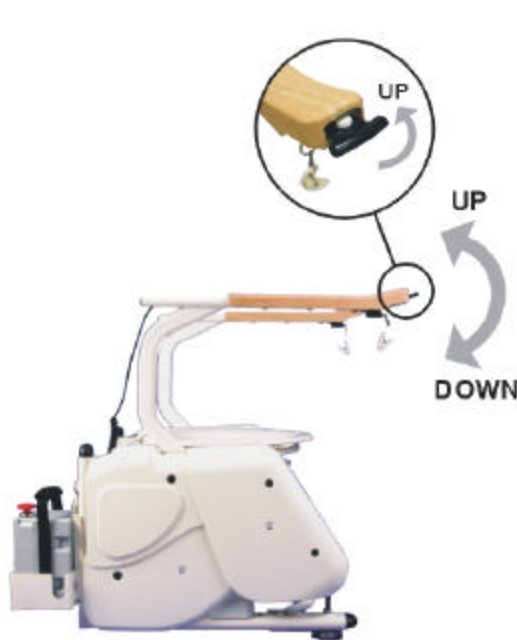

Figure D-1. Seat Lift Controls
- a. Use the seat lift controls, and raise the seat to the desired height per Figure D-1 .
- a. Press the "up" button on the forward end of the control handle. Keep the button depressed until the armrest mount holes are accessible. See Figure D-1.